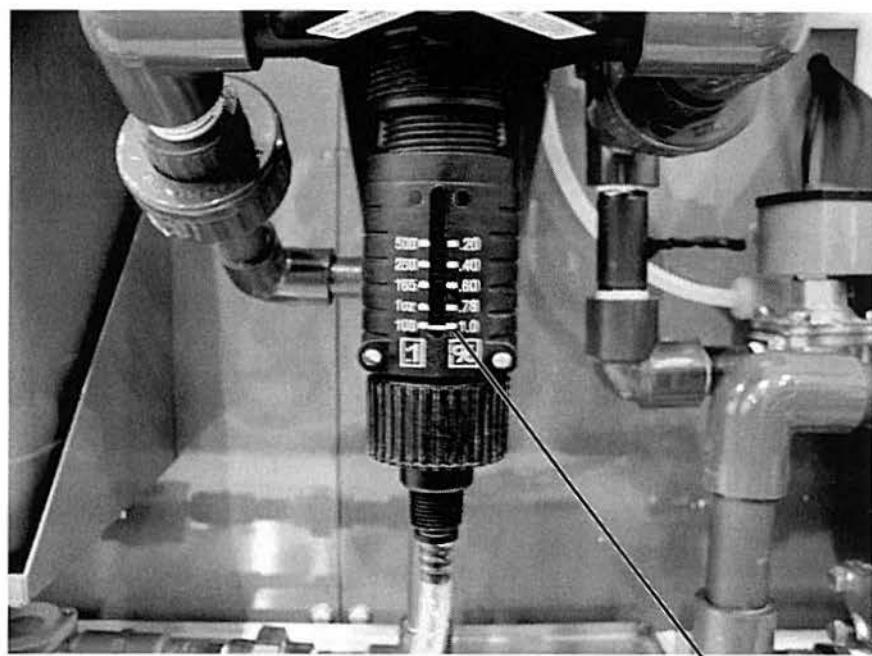

Figure 39. Ratio Control Dial Set to 100:1 Ratio
B. Set the ratio control dial to a ratio of 100:1, as shown in figure 39.